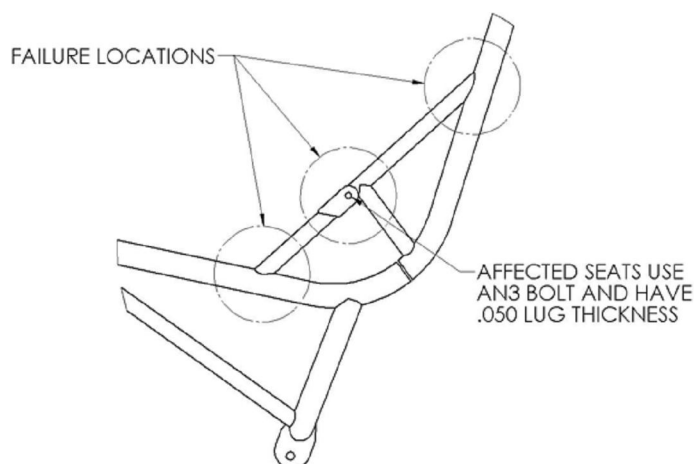

Figure 1 Critical Seat Hinge Areas
Procedure: Older seats require inspection due to possible failure in critical areas (see figure 1). Affected seats may be identified by AN3 hinge bolts and 0.050 inch lug thickness.
(1) Within the next 25 flight hours, remove rear seat hinge bolts and inspect rear seat hinge areas as noted in Figure 1:
(2) Repeat item (1) every 100 hours of flight or during annual inspection, whichever frequency is higher.